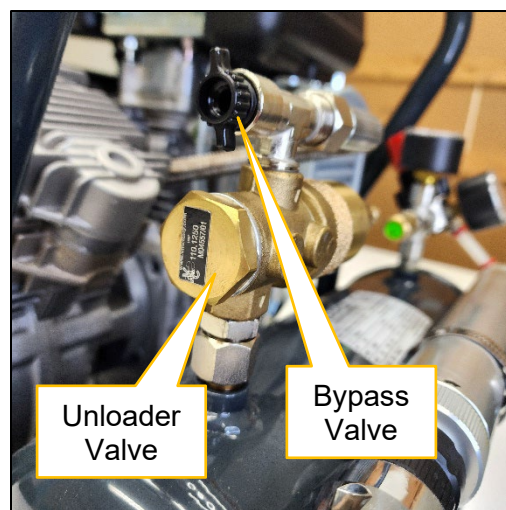

Figure 4. Pressure unloader and bypass valves.
- Unscrew the black bypass valve next to the pressure unloader valve so the compressor starts without pressure (Figure 4).
- Screw the black bypass valve closed (Figure 4).
- Release the air from the tank by unscrewing the black bypass valve (Figure 4).